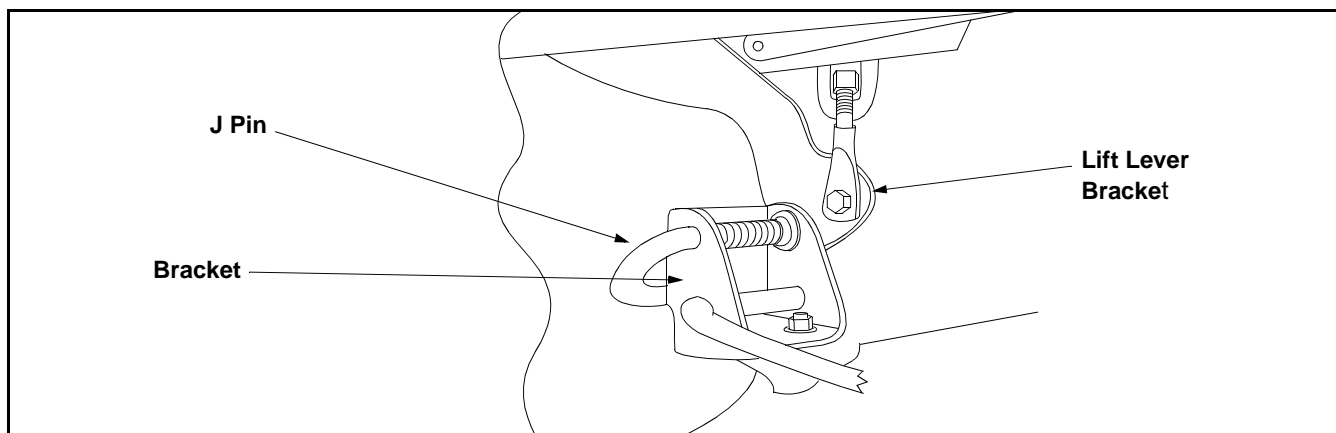

Figure 28
7. Align the mower deck so the lift lever bracket aligns with the bracket on the mower deck. (See Figure 28)
9. Release the J-pin so that it goes through both holes of the bracket. (See Figure 28)